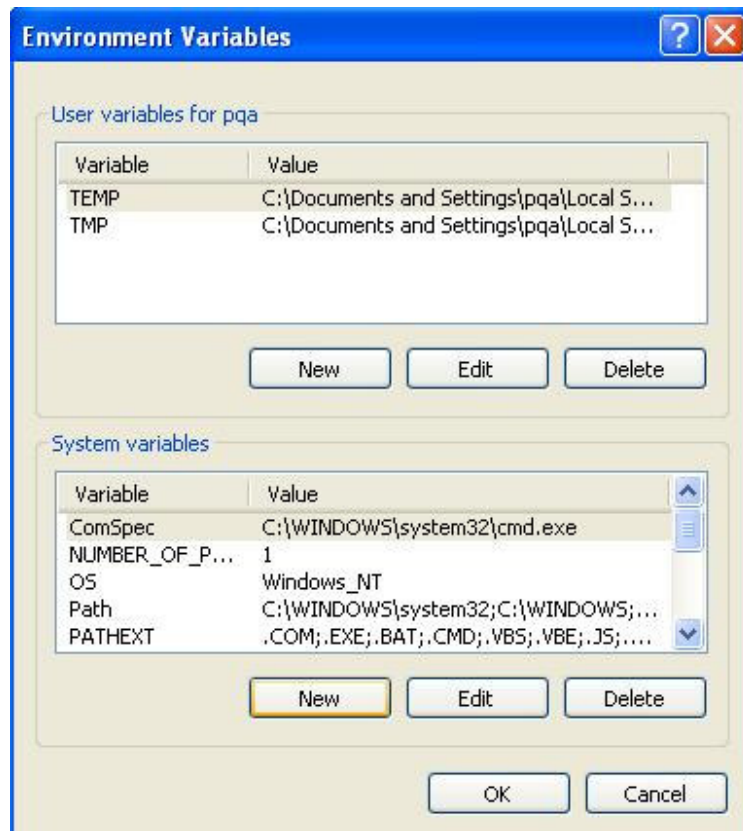

Figure 3-15. EMS server environment-4
4. Find System Variables on Environment Variables Dialog as Figure 3-15.